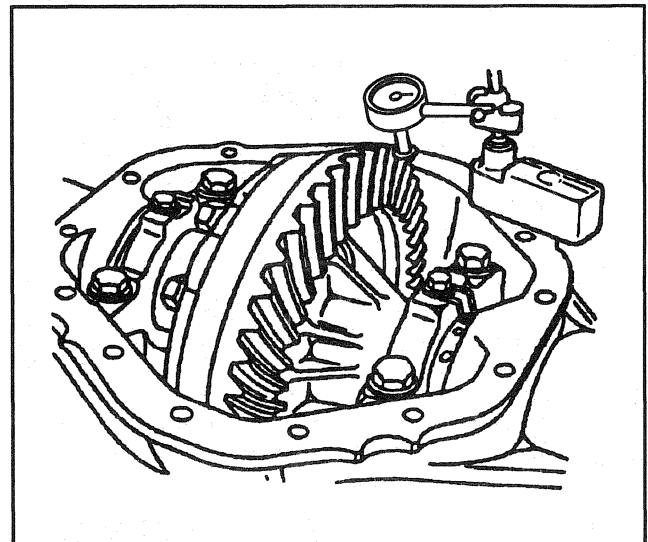

Figure 17—Measuring Gear Set Backlash
1. Install a dial indicator to the case using a magnetic base (Figure 17).